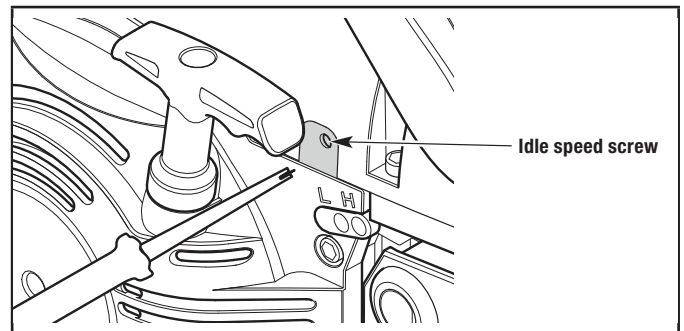

Figure 43
- 2a. If the engine stops, use a small Phillips or flat-head screwdriver to turn the idle speed screw clockwise, 1/8 of a turn at a time (as needed) until the engine idles smoothly (Fig. 43).
- 2b. If the engine idles too quickly, turn the idle speed screw counterclockwise, 1/8 of a turn at a time (as needed) to reduce the idle speed (Fig. 43).